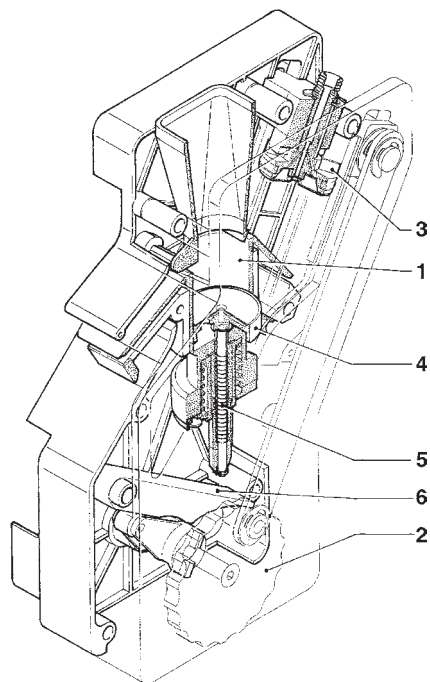

Fig. 11
The coffee falls into the vertical brewing chamber (1) (see Fig. 11).